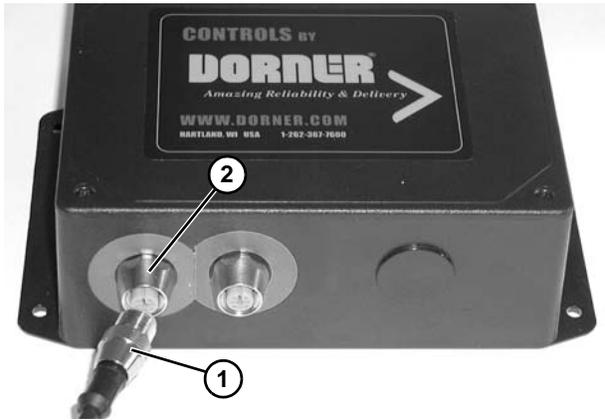
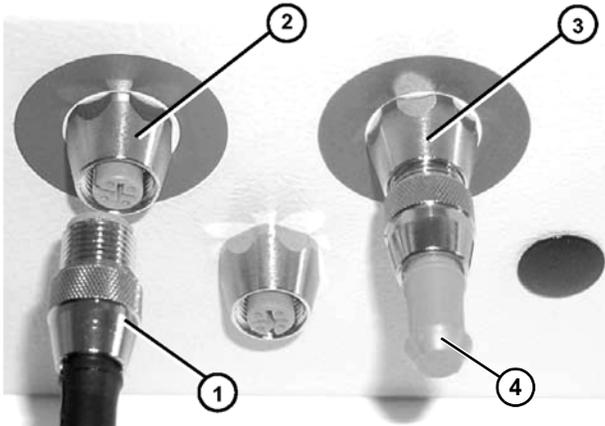

Figure 42
Figure 43
2. Connect opposite end of linking cable kit (**Figure 42, item 1**) or (**Figure 43, item 1**) to the blue port (**Figure 42, item 2**) or (**Figure 43, item 2**).
3. For Remote Full Featured VFD Controllers, ensure the enclosed termination plug (**Figure 43, item 4**) is connected to green port (**Figure 43, item 3**).
2. Connect the Control Stop linking kit to the green port of the Remote Full Featured VFD controller (**Figure 43, item 3**).